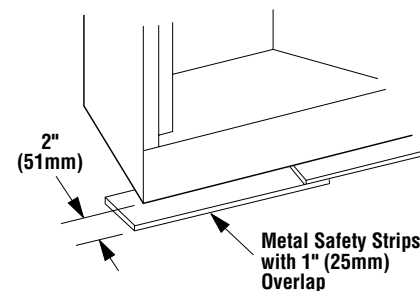

Figure 8
- 5.1. See **Figure 8, below**. Insert the damper link through the inner transition flange, and then place the inner transition collar over the inner transition flange.
The safety strips should extend from front and sides of the fireplace 2" (51 mm). In the event a wooden support is used to elevate the fireplace above the floor, a "Z" type safety strip should be fabricated and used to protect the front surface of the wood support as well as the floor beneath the hearth extension (see **Figures 8 and 9, below**). The safety strips should be tacked down to prevent possible movement.